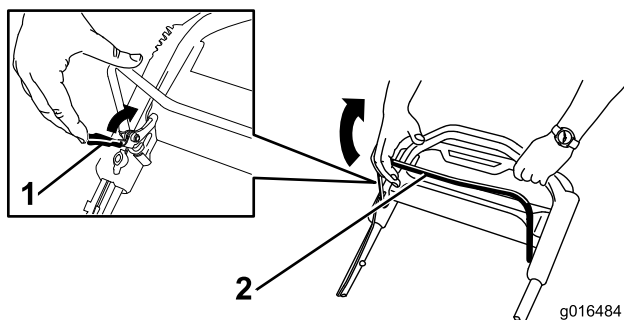

Figure 22
1. Pull the blade-control-bar lock back to the blade-control bar (Figure 22).
2. **Slowly** pull the blade-control bar back to the handle (Figure 22).